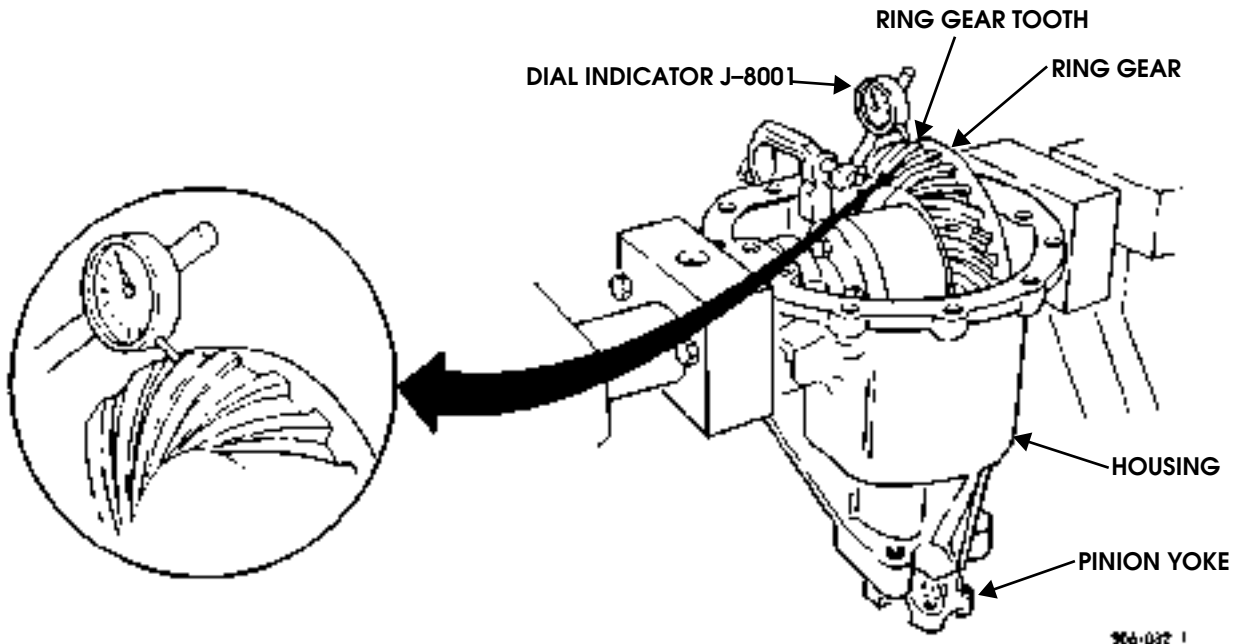

Figure 9-97: Checking Ring Gear Backlash
49. Attach dial indicator to housing and position indicator to read off drive side of ring gear tooth at a right angle (Figure 9-97).